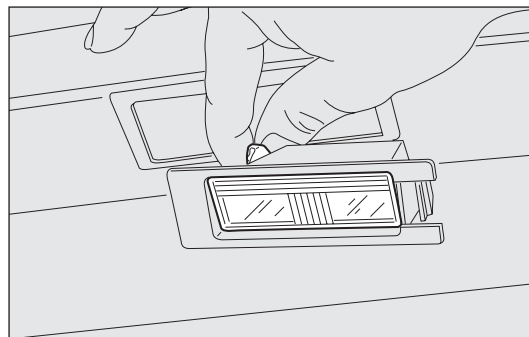

fig. 151
- ☐ change the bulb fig.151 by releasing it from the side contacts and making sure that the new bulb is correctly fastened between these contacts;